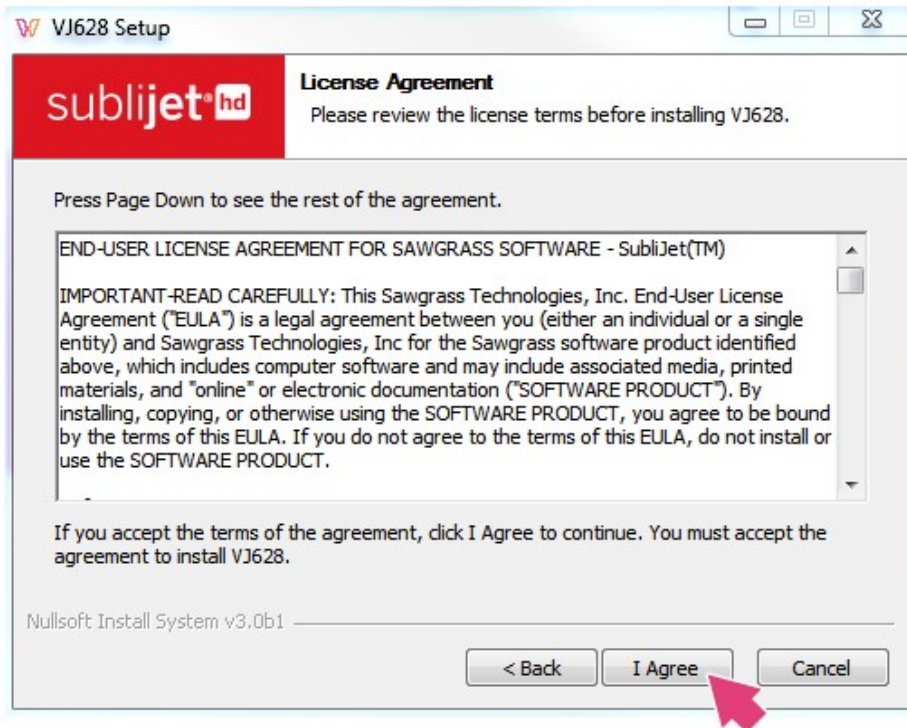

Figure 4
4. After reviewing the License Agreement, select **I Agree** to prompt the SJHD VJ628 Fluorescent RIP Profiles download and continue with the installation. See Figure 4.